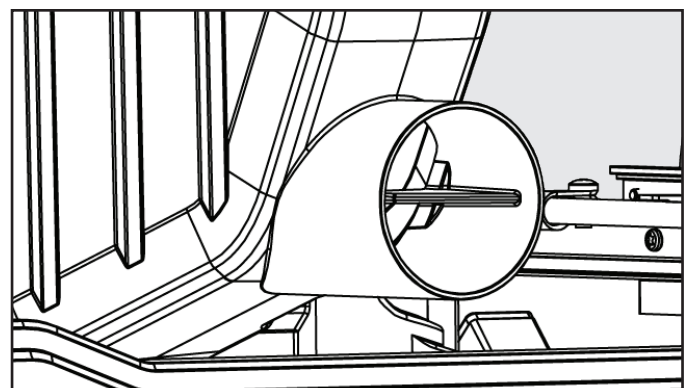

Figure 18
1. Connect a shop vacuum or dust collection hose to dust port on back of saw for best dust collection (Fig. 18).